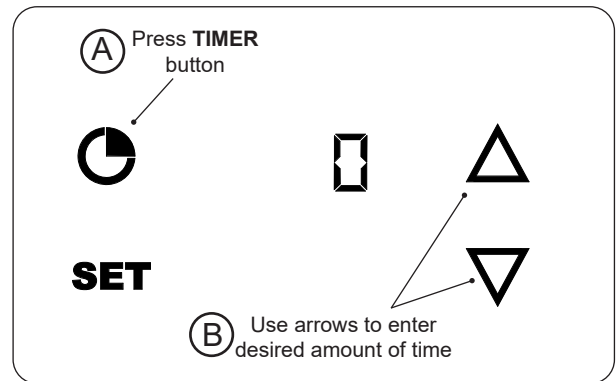

Fig. 33-1 Set timer
1. With the thermometer/thermostat **on**, press the **TIMER** button once (Fig. 33-1, A). A zero will display indicating that no timer is set.
2. Press the **UP** or **DOWN** arrows to enter the desired amount of time (Fig. 33-1, B).